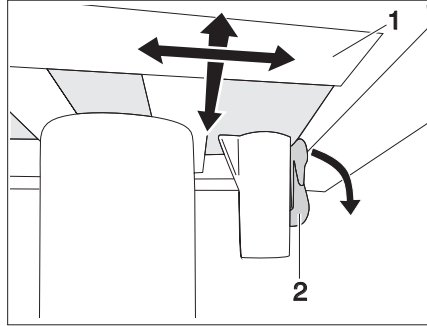

Fig. 67 Lock single-column table (locked)
- ▶ Push the locking lever (Fig. 67,2) down.
- ▶ Move the table-top (Fig. 67,1) to the desired position.